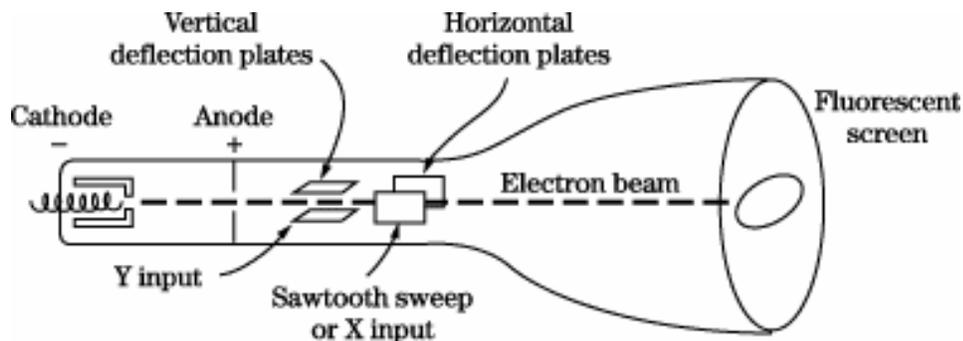

Figure D-1.
*The cathode-ray tube:* This is one of the most versatile pieces of laboratory test equipment that you will use. It is really a type of analog voltmeter with an arbitrary zero. It can read DC voltages as an offset voltage and AC voltages by displaying the true wave form. Most modern oscilloscopes are capable of measuring AC signals over a wide range of frequencies. The range of frequencies that our scopes can handle (also called bandwidth) is 10Hz to 100MHz. The heart of any oscilloscope is the cathode-ray tube (CRT) shown in Figure D-1.